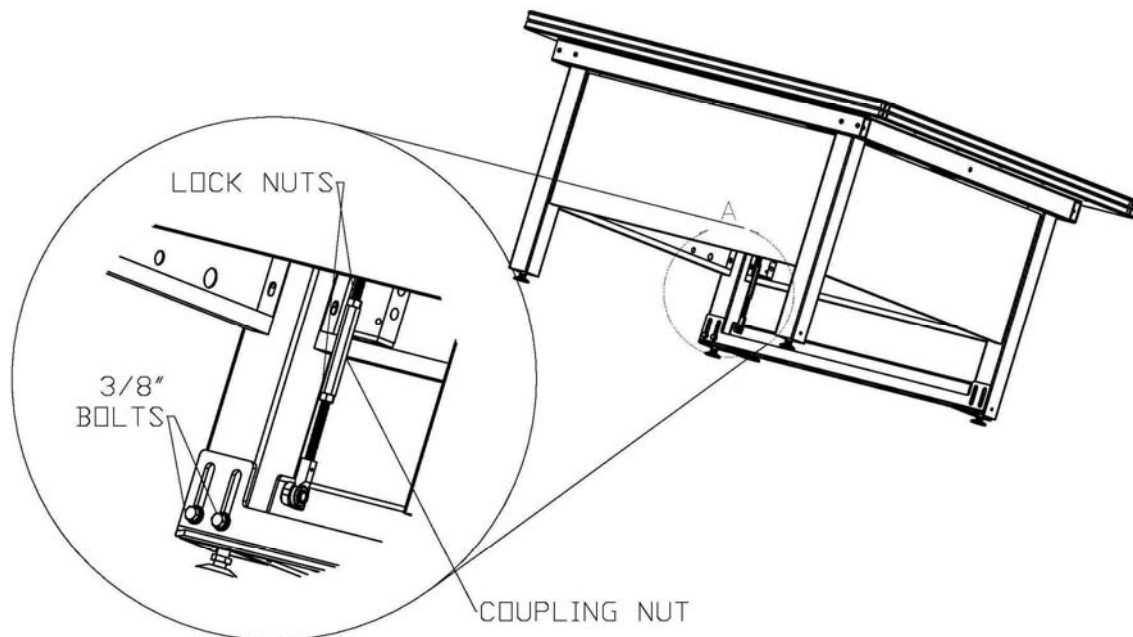

Figure 1b
1. To adjust the foot pedal height you need to loosen the 3/8-16 bolts on the back of the front legs. See **Figure 1b**
- a. Loosen the lock nuts on the tie rod assembly. See **Figure 1b**
- b. Turn coupling nut to lengthen or shorten the assembly. See **Figure 1b**